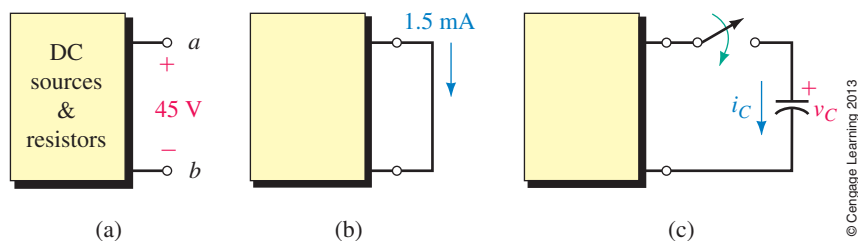

FIGURE 11-61
36. A black box containing dc sources and resistors has open-circuit voltage of 45 volts as in Figure 11-61(a). When the output is shorted as in (b), the short-circuit current is 1.5 mA. A switch and an uncharged 500-μF capacitor are connected as in (c). Determine the capacitor voltage and current 25 s after the switch is closed.